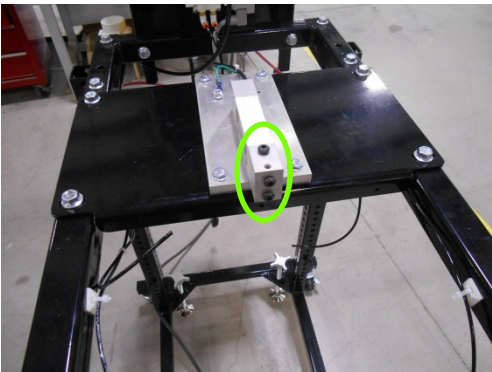

Fig 2
- Load cell will be revealed with three bolts for re-attachment of the weigh hopper. (Fig 2)